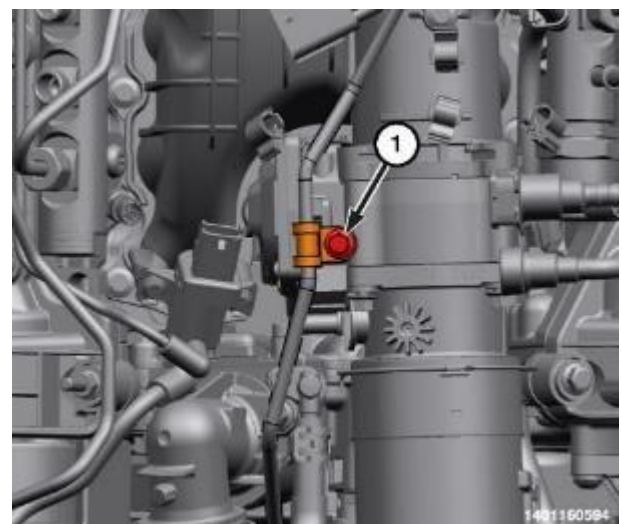

Figure 23 – Fuel Tube Bolt
- 45. Remove the bolt (1) securing the fuel tube (Figure 23).